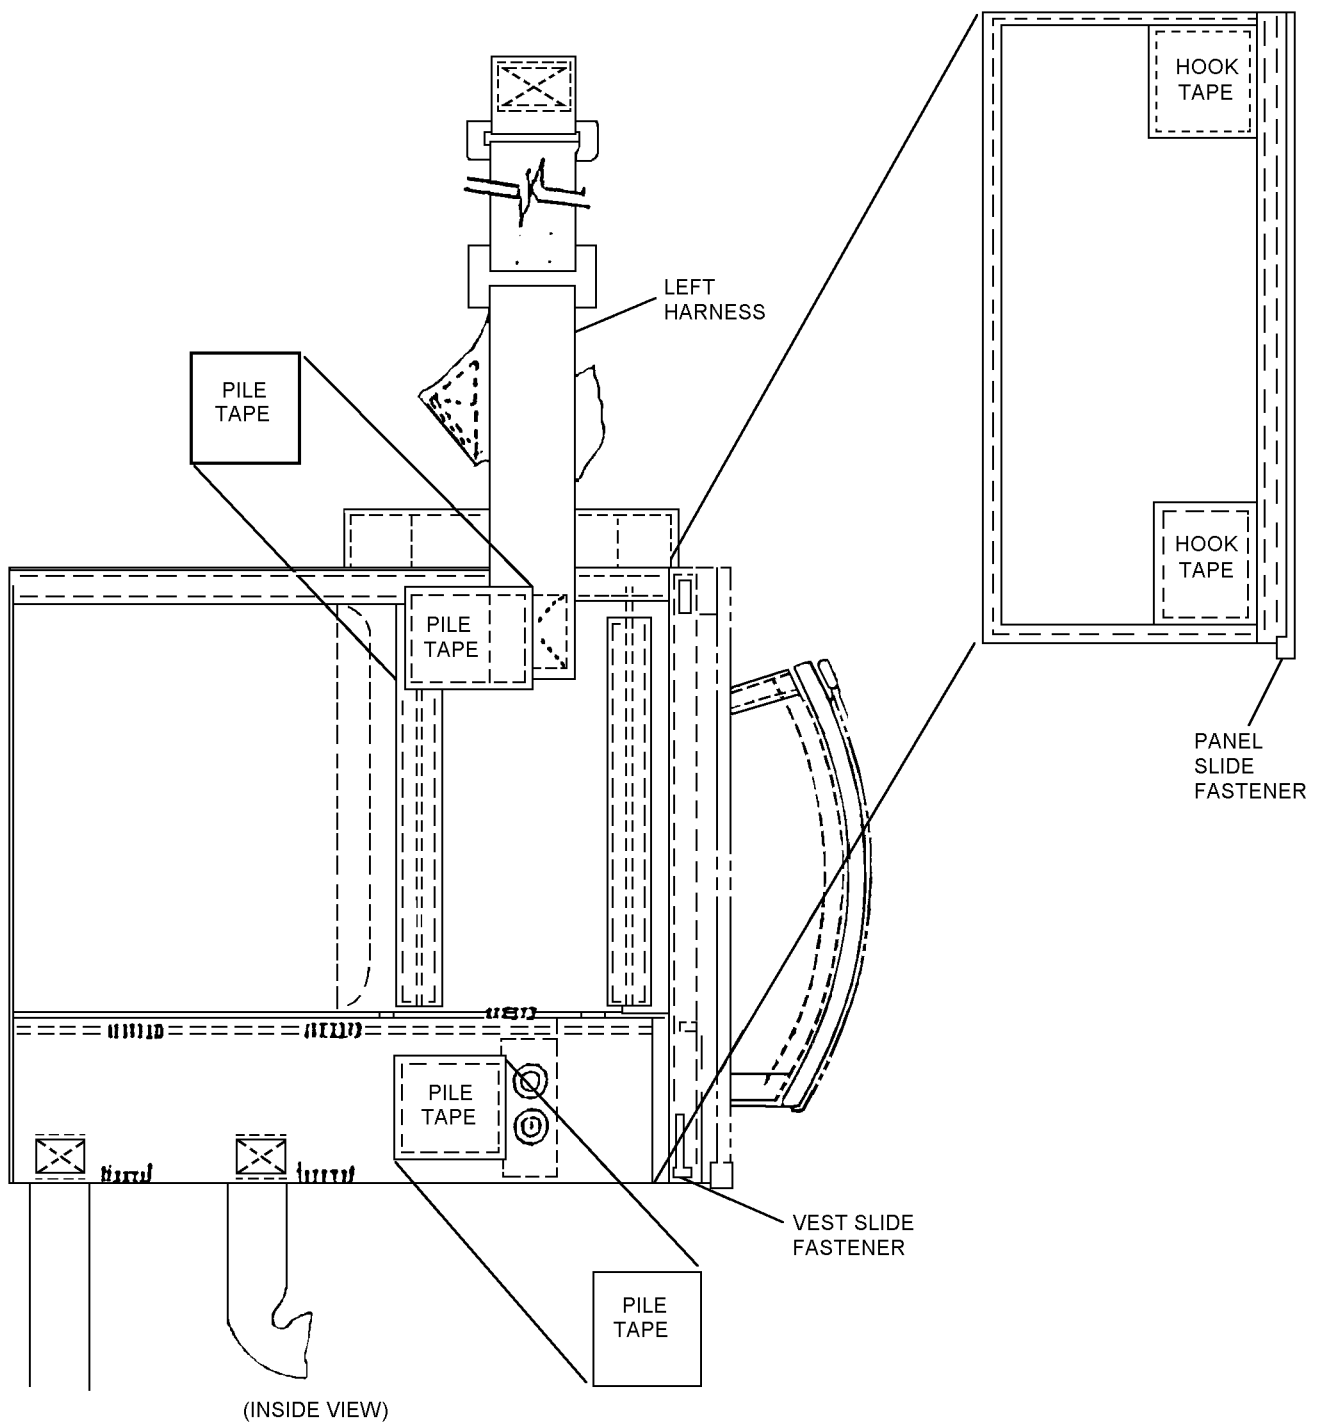

Figure 6-26. SV-2B Before ACC 522
4. Cut two 2-inch square pieces of hook fastener tape. Sew one piece in the upper right hand corner of the panel and the other piece in the lower right hand corner (figure 6-26).